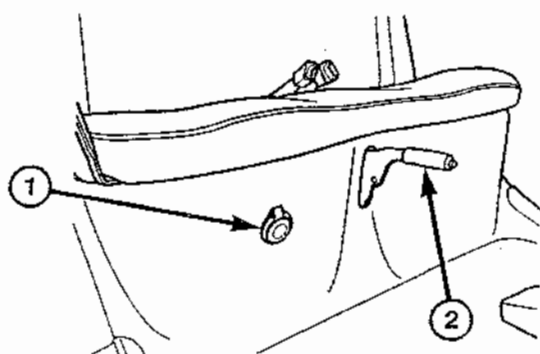

Figure 5 - Parking Brake
- Main disconnect switch (see figure 5) is in the "ON" position (shown in the off position in the illustration),